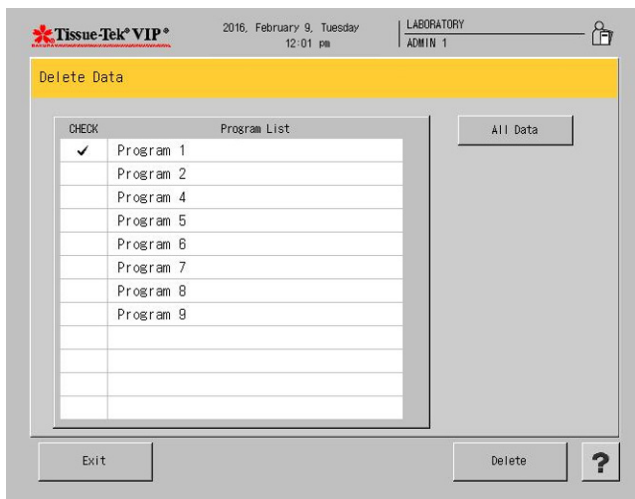

**Figure 3-000**
- A Confirmation dialog box displays (Figure 3-000).